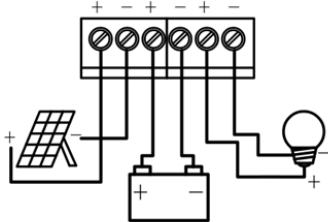

Figure 2
2. Connecting System Components: as shown in Figure 2, first connect the battery, and the controller will automatically recognize the type of 12V/24V battery. During the power on period, the red, yellow, and green LED indicator lights on the panel will flash for 3 seconds at the same time. Then, if the battery is 12V, the yellow light will remain on for a long time. If the battery is 24V, the yellow indicator light will continue to flash for 3 seconds. Then, connect the solar photovoltaic panel, and finally connect the load to complete the entire system connection.